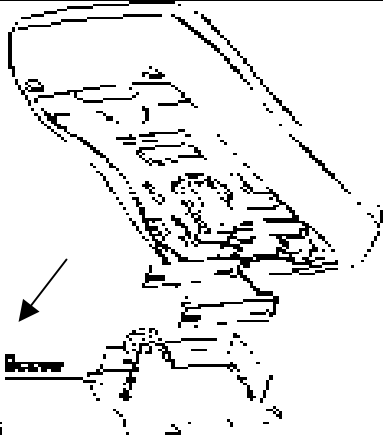

Fig3
C. Replacing the Battery (see figure 3)